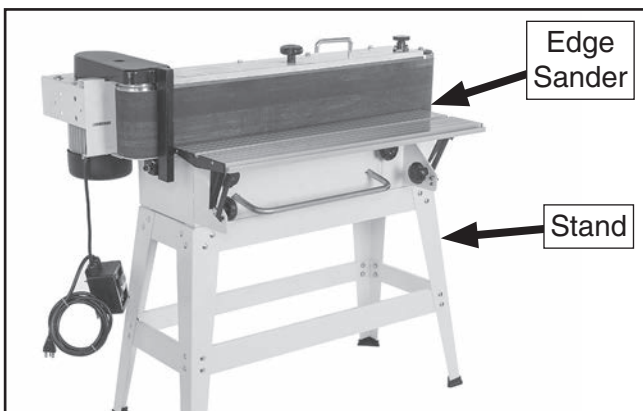

Figure 17. Edge sander placed on stand.
7. Fully tighten all fasteners, and then remove (4) M6-1 x 20 hex bolts inserted in **Step 6**.
8. With help from another person, place edge sander on top of stand (see **Figure 17**).